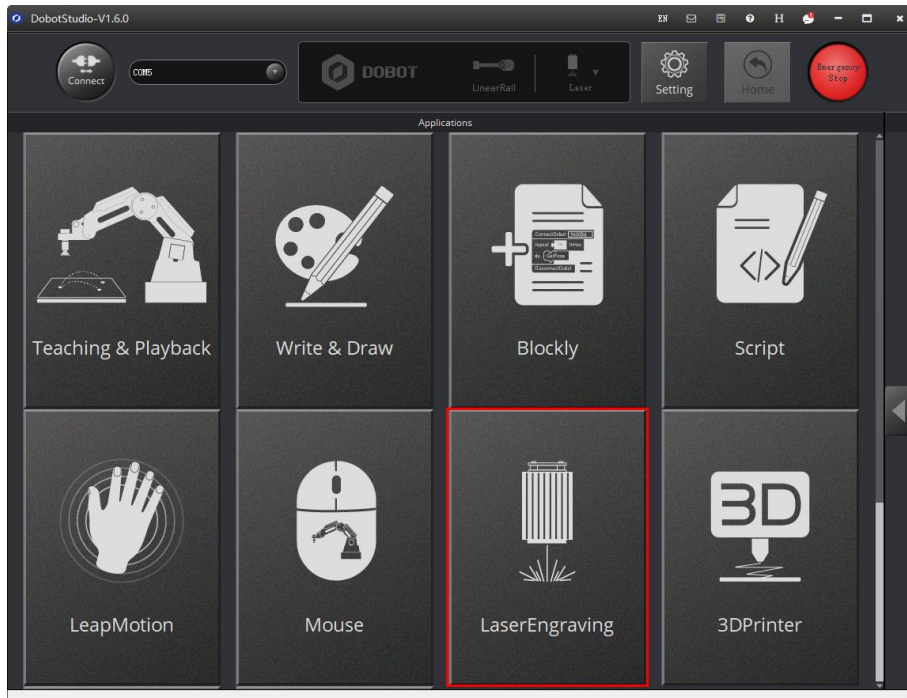

Figure 5.90 Click LaserEngraving
Step 2 Click **LaserEngraving**, as shown in Figure 5.90.